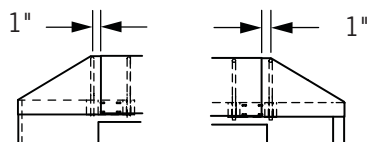

Figure 44
1) Figures 44 & 45. Roll the tarp onto the roll pipe and place on the trailer. Position the tarp front to back accordingly.